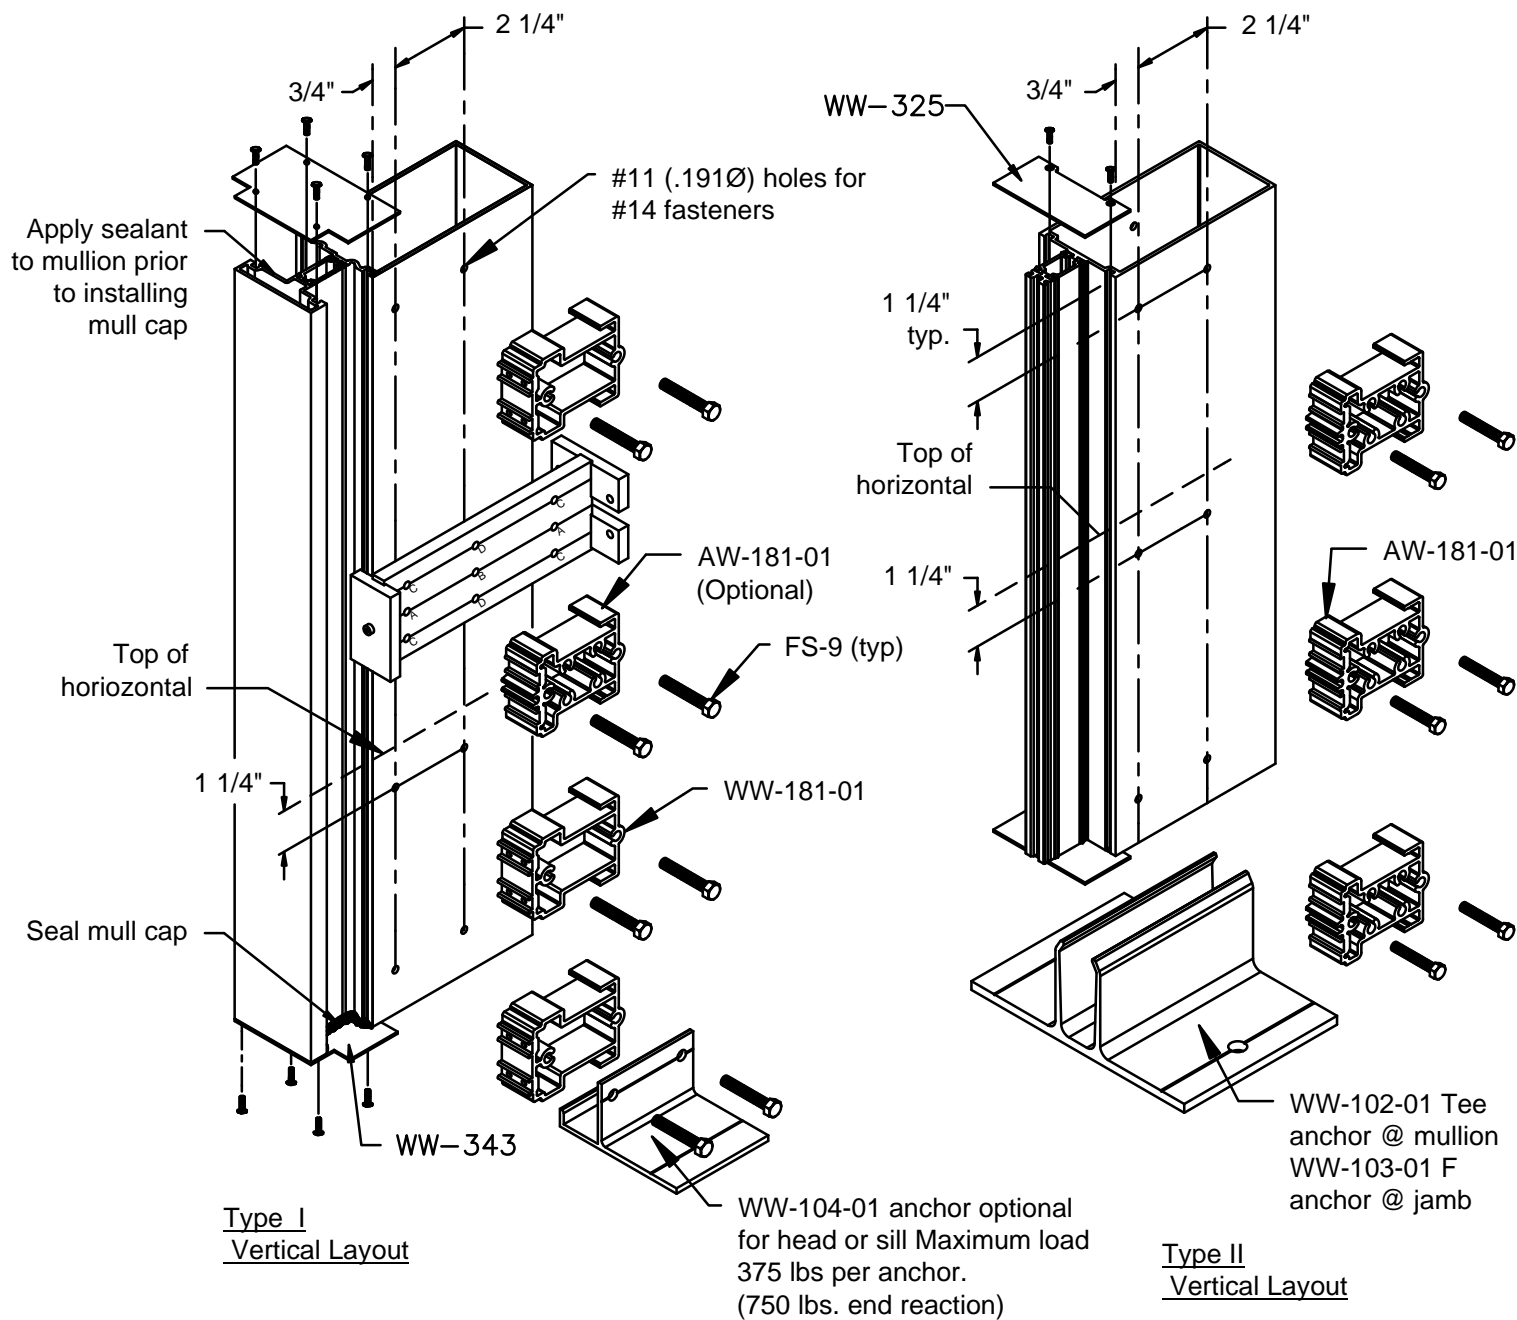

FIGURE 3
- 1.3 Fabricate vertical mullions for horizontal members using the DJ-100 drill jig. Drill holes for shear block using holes marked "A" and "B". SEE FIGURE 3. When working off horizontal centerlines, use the scored lines to align the jig with the centerline.
1.4 Install and seal end caps to top and bottom of all jamb and intermediate vertical mullions with FS-320 #10 x 1/2" drive screw. Cap seal FS-320. SEE FIGURE 3 page 10
- 2.1.10 Attach shear blocks to all vertical members. SEE FIGURE 3, page 10 for proper orientation on mullion.